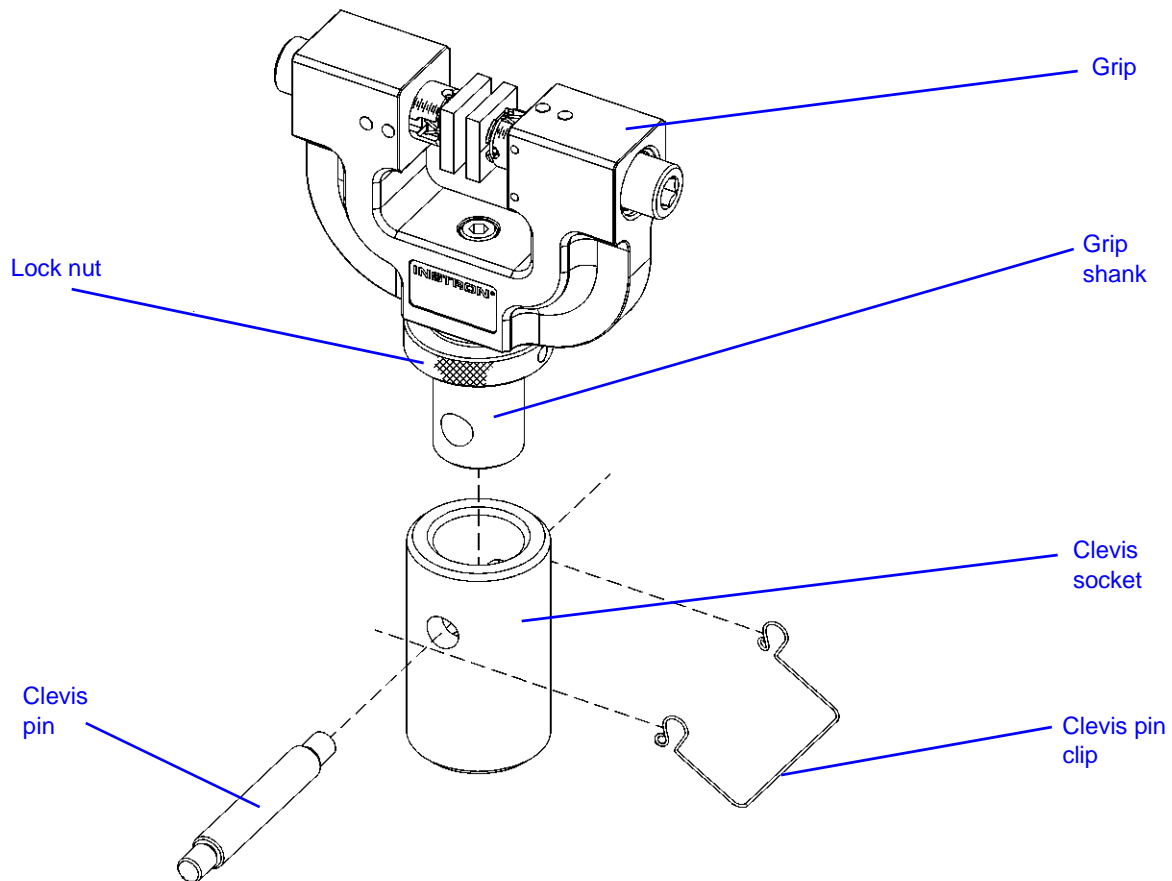

Figure 2-5. Grip with Clevis Pin Coupling
Figure 2-5 on page 2-18 shows a typical grip with clevis pin coupling.
1. For the lower grip, insert the adapter on the grip into the female clevis socket on the load frame base adapter, as shown in Figure 2-5 on page 2-18.